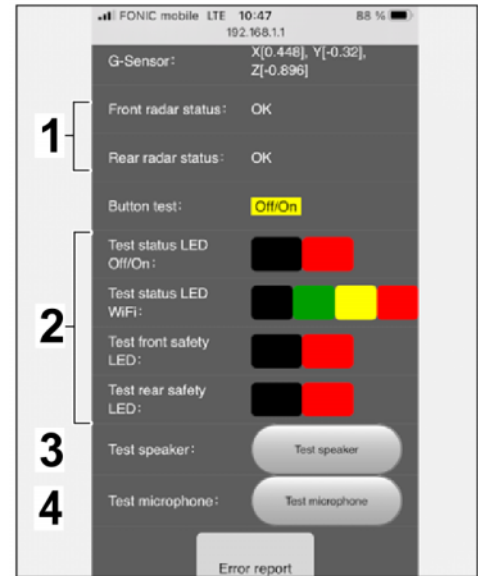

Figure 28
6.3 Display of radar status, possible tests for LED lights, loudspeaker and microphone (⇒ Figure 28)